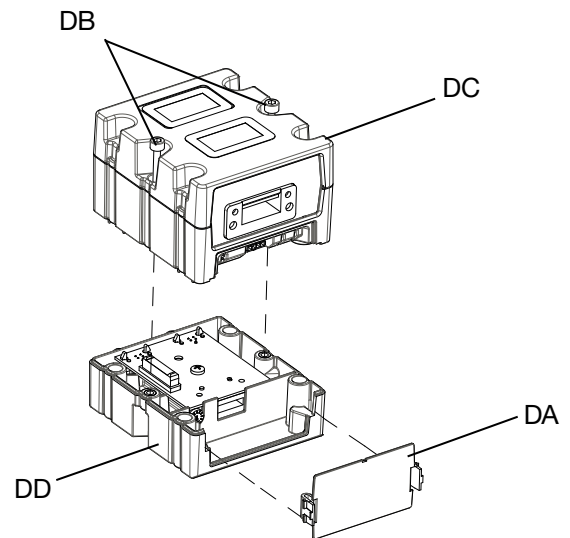

FIG. 51: Disassembling the CGM
4. Remove the access cover from the CGM (DA). Loosen and save the two M5-0.8 x 45 mm x screws (DB), and remove the CGM (DC) from the base (DD). See FIG. 51.
5. Using the four M4-0.7 x 20 mm mounting screws included in the kit, mount the base (DD) to the CGM bracket.
6. Reattach the CGM (DC) onto the base (DD) with the two screws (DB) that were removed and saved from step 4.
7. Reattach the access cover (DA).
8. Unplug the cable from the ADM and plug the cable back into CGM (DC).